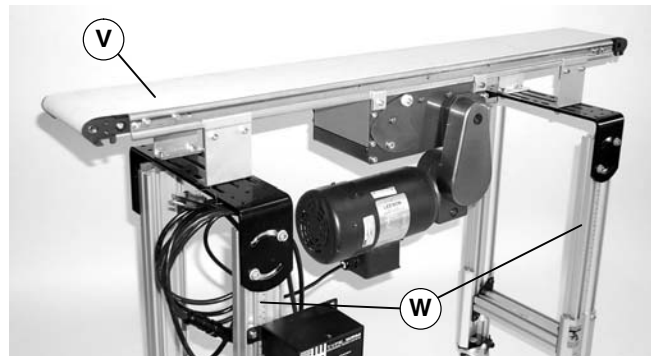

Figure 10
5. Position conveyor (V of Figure 10) on stands (W) .